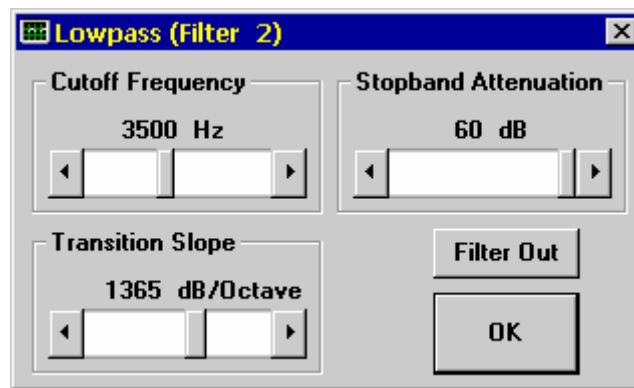

Figure 3-9 Tutorial Lowpass Filter Control Window
26. Click on the **Control** button in the Filter 2 block. The window in Figure 3-9 will appear:
27. Use the mouse to set all controls to match the settings shown in Figure 3-9. Do not click on the **OK** button at this time.